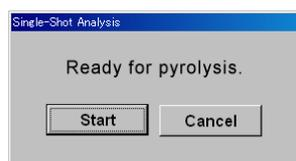

Fig. 4.8 Start dialog box for Single-Shot Analysis
- (6) Press "START" button.
- (7) The dialog box shown in Fig. 4.8 indicates when the GC, Pyrolyzer, Interface, Selective Sampler and MicroJet Cryo-Trap are all READY. Manually press the sample drop button on the top of the sampler. This releases the cup which drops into the furnace. Immediately click on the "Start" button of the dialog box or hit the "ENTER" key on the PC keyboard.